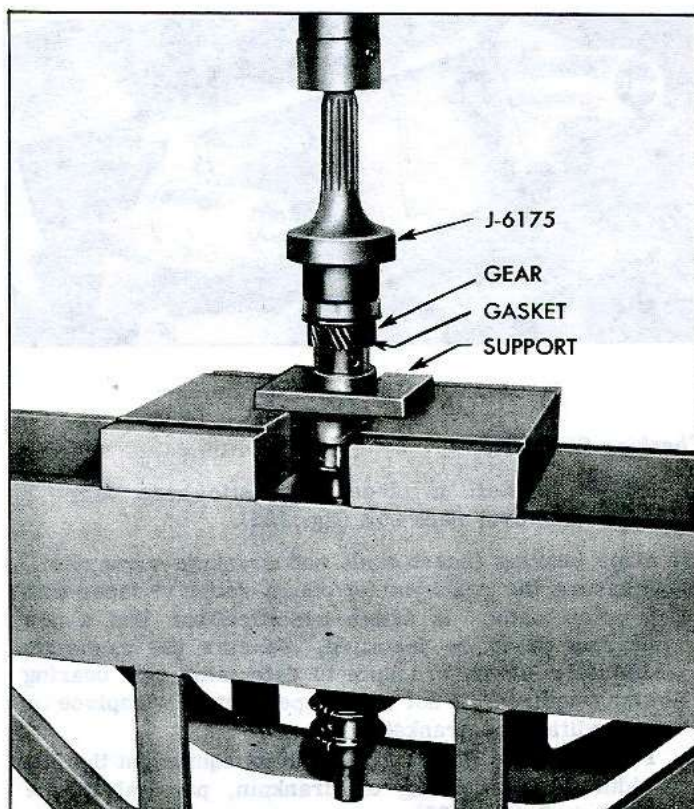

Fig. 121—Installing Crankshaft Gear
1. Place crankshaft in a hydraulic press and firmly support crankshaft between front crankshaft throw and front journal (fig. 121).